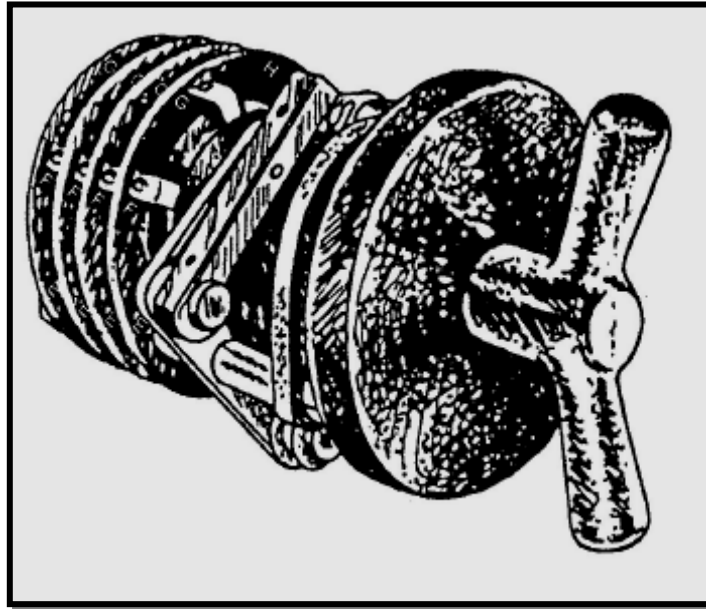

Figure 2-8.—Type J switch.
**TYPE J.**— The type J multiple rotary selector switch (fig. 2-8) consists of an equal number of rotors and pancake sections. The number of sections required in the switch is determined by the individual application. A shaft with an operating handle extends through the center of the rotors. The movable contacts are mounted on the rotors, and the stationary contacts are mounted on the pancake sections. Each section consists of eight contacts, designated A to H, and a rotor with two insulated movable contacts spaced 180° apart. Each movable contact is arranged to bridge two adjacent stationary contacts. The switch has eight positions. A detent mechanism is provided for proper alignment of the contacts in each position of the operating handle.